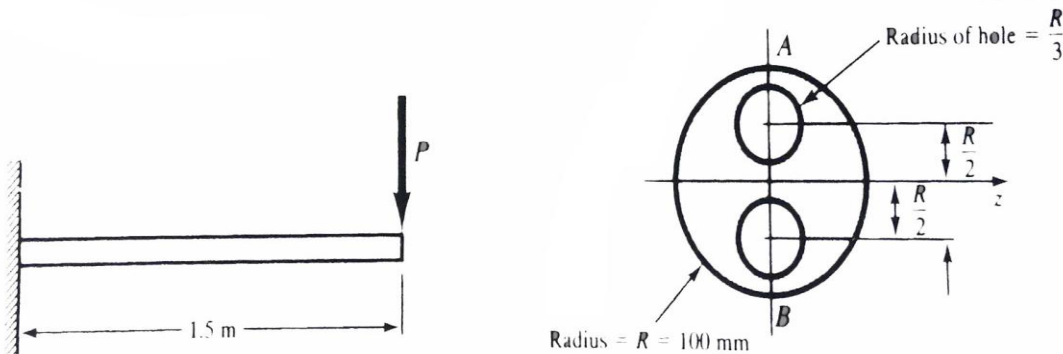

Figure: 3
7. A cantilever beam is of length 1.5 m, loaded by a concentrated force P at its tip as shown in Figure 3 and is of circular cross section ($R=100$ mm) having two symmetrically placed longitudinal holes as indicated, the material is titanium alloy, having an allowable working stress in bending of 600 MPa. Determine the maximum allowable value of the vertical force P. [10]